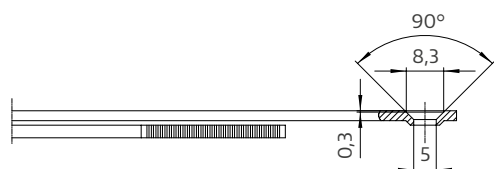

Fig. 1
5. Install the **Tilt-Only stay-arm housing** ⑤. Mark the Tilt-Only stay-arm's notch (Fig. 1, ①) on the frame with a pencil, line up the Tilt-Only stay-arm housing's mark with the notch and mount (Fig. 1, ②).
2. Open the safety device on the Tilt-Only stay-arm housing and hinge the scissor-stay arm (Fig. 1).
3. Bring the window handle into the tilt-mode (Fig. 2) and close the safety device again (Fig. 1)